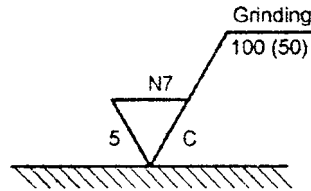

Fig. 1
- (f) State the meaning of the symbol shown in Fig. 1